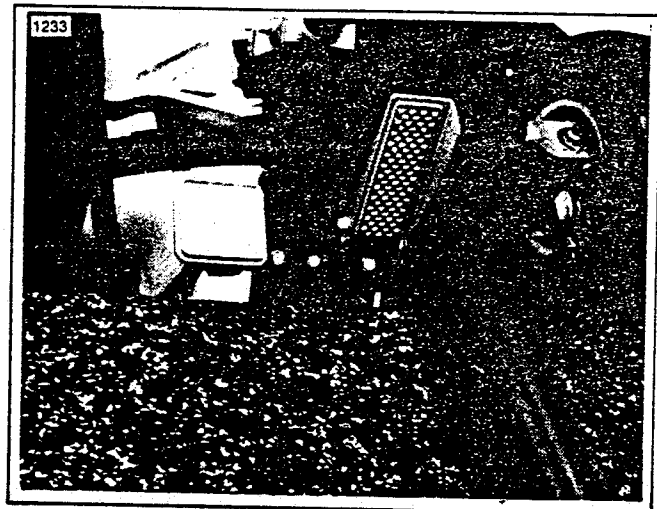
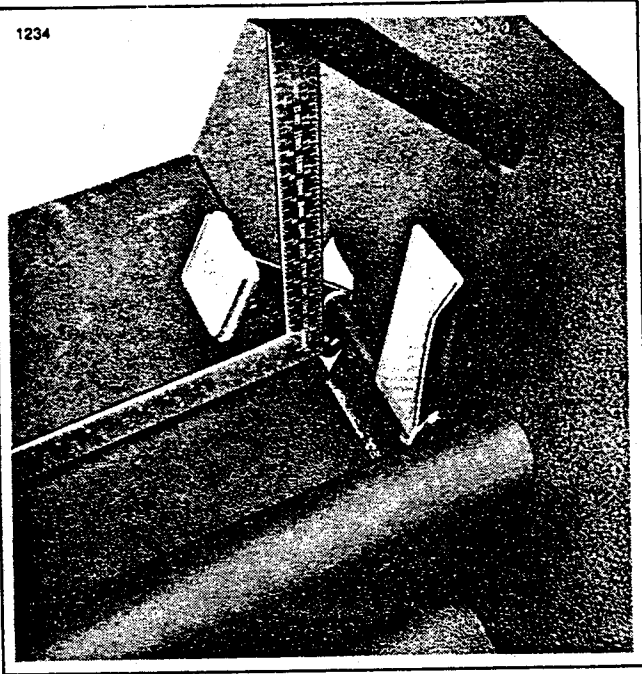

Figure 4-4. Accelerator Bracket Bolts — DX4
Figure 4-5. Pawl Perpendicular to Floorboard
1. See Figure 4-4. Loosen but do not remove three accelerator mounting bolts.
2. See Figure 4-5. Hold pawl perpendicular to floorboard with carpenter's square. Depress brake pedal and adjust the accelerator bracket until pawl engages ratchet notch about half way. Snug the three accelerator bolts (Figure 4-4).